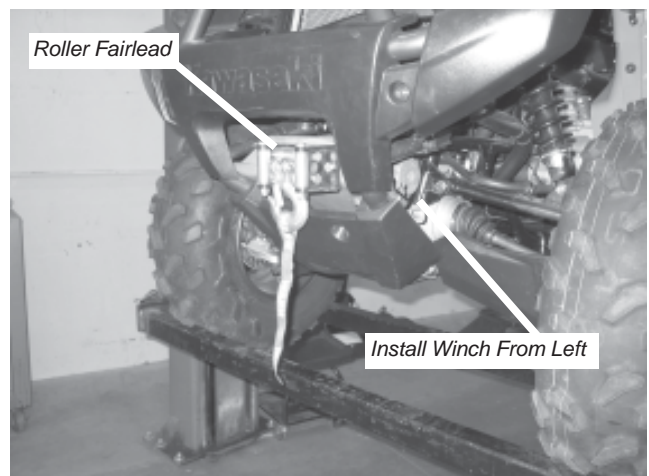

Figure 6 Install Winch and Roller Fairlead
6. Install winch from the left side of the vehicle, as sitting on the vehicle, Figure 6. Fasten winch with hardware supplied with the winch. Mount the winch so that the motor faces the right side of the vehicle. Tighten the bolts to a recommended torque of 17 N-m (12 ft-lb).
Also attach roller fairlead to the winch mounting plate, Figure 6, using two hardware provided in the winch kit. See instructions included in winch kit for recommended torque.